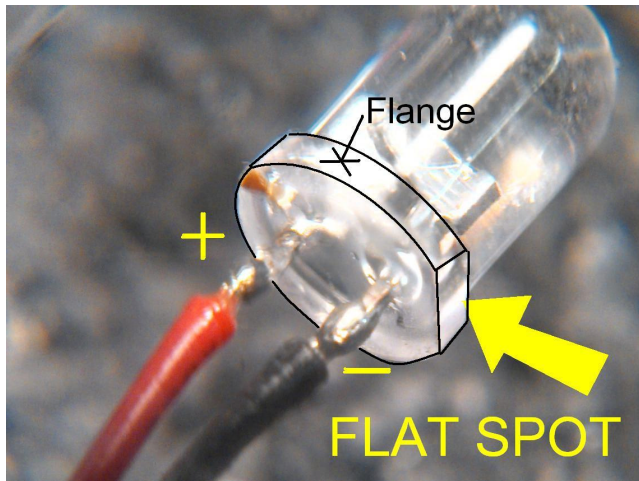
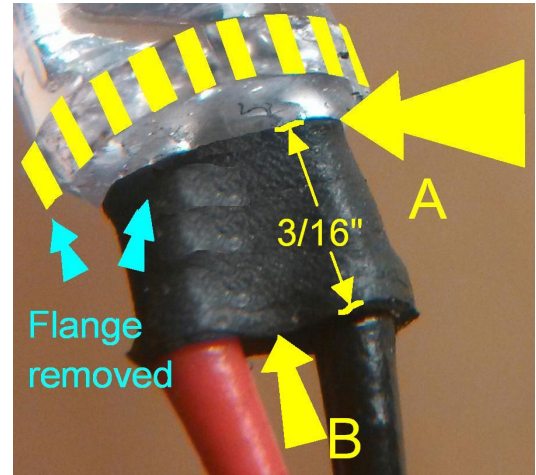

Figure 26
Figure 27
9. **Soldering LED Leads** Refer to **Figures 25, 26, 27** Before cutting the LED leads use a small piece of #1000 grit abrasive paper to lightly sand the rounded end area of the LED. Trim the LED leads as shown to 0.1" length, using small diagonal or flush cutter pliers. Secure the LED body in place for soldering leads onto the LED terminals. Using 60/40 rosin core solder, solder a stranded black #26 gauge wire lead to the negative terminal (Cathode) of the LED, then solder a stranded red #26 gauge wire lead to the positive lead (Anode) on the opposite side of the lead as shown in **Figure 25**. **CAUTION: minimize heating of LED leads by limiting soldering time to 3 seconds or less at 750 degrees F** Slip the piece of heat shrink onto the leads pushing it up against the base of the LED (**Figure 27**, arrow **A**) and shrink it in place as shown using the tip of a soldering iron or heat gun again keeping heat applied only long enough to sufficiently form the heat shrink in place while squeezing it completely closed with needle nose pliers as shown in **Figure 27**- arrow **B**, **NOTE: This will reduce the chances of the LED connections contacting the interior back surface of the hood and shorting out. Before** proceeding to the next step, it is recommended to test the LED for illumination with clip leads (test jumpers) or tack solder LED wire leads onto a current limiting resistor to a 12 volt power source as shown in the diagram of part 1 of the article. **NOTE: when the inside diameter of the hood is smaller than diameter of the LED's flange (Figure 26) it can be reduced by sanding or filing or a Dremel tool using the appropriate bit, Removing the flange with diagonal pliers or flush cutters is NOT recommended as the epoxy body of the LED could fracture risking the possibly of permanently damaging its internal connections.**